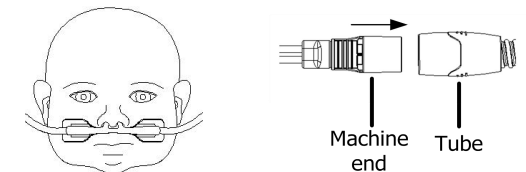

Fig. 7-3
(3) After confirming the position, press the nasal cannula to the face for bonding to complete the wearing. Connect the machine end to the tube of the breathing gas supply device and keep the air supply smooth and without air leakage, as shown in Fig. 7-3.